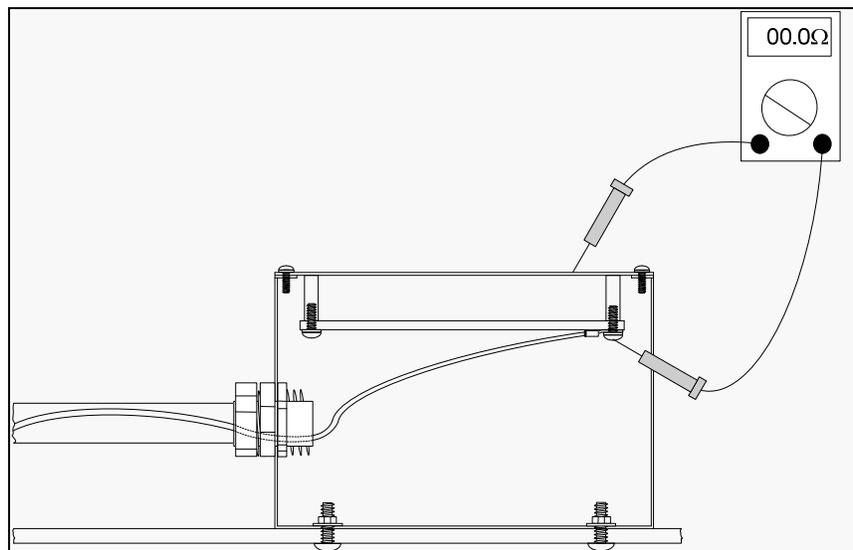

Figure 18 Continuity Testing - Bonding Wire to Faceplate
Step 1: : Measure the resistance from the bonding wire to the faceplate as shown in **Figure 18** below.